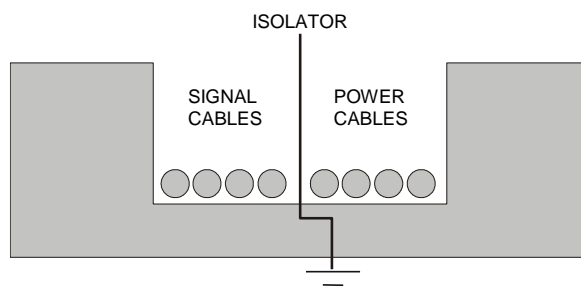

Fig. 9.7 – Cable Arrangements on the Tray
- 1) Install a grounded metallic separator, as illustrated in figure 9.7.